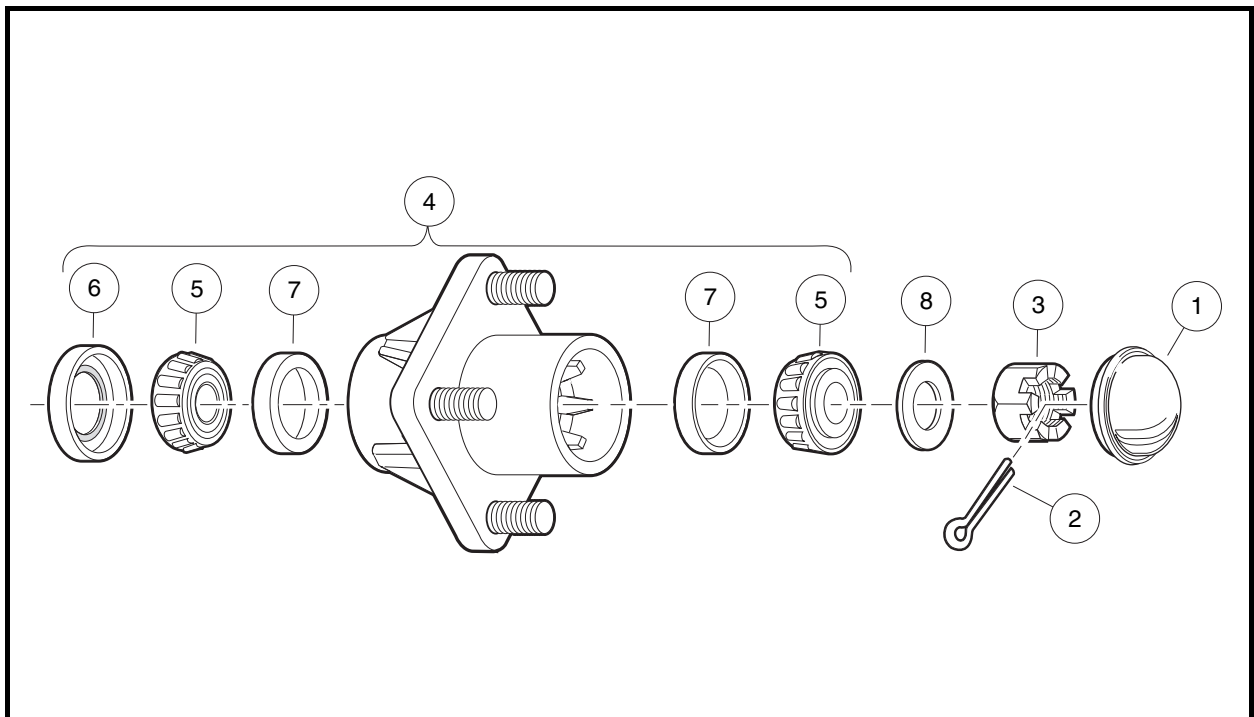

Figure 7-24 Front Wheel Bearings and Hub - Four-Wheel Brake Vehicles
2. Using your hands, attempt to rock the wheel and hub assembly back and forth on the spindle. If there is any observable movement of the wheel and hub on the spindle, remove dust cap (1) and cotter pin (2), and then tighten the spindle nut (3) until the bearing (5) fully seats in the bearing race (7) (**Figure 7-24, Page 7-24**).
4. Install a new cotter pin (2). If movement continues, replace the wheel bearings (5) as required.
- 2.1. Remove dust cover (1), cotter pin (2), spindle nut (3), and flat washer (8) (**Figure 7-24, Page 7-24**).
1. Pack the wheel bearings (5) and hub cavities, and lubricate cups (7) with wheel bearing grease or chassis lube. Make sure the grease is forced between the rollers (**Figure 7-24, Page 7-24**).
2. If bearing cups (7) were removed, press new ones in squarely against stops in the hub. **See following NOTE.**